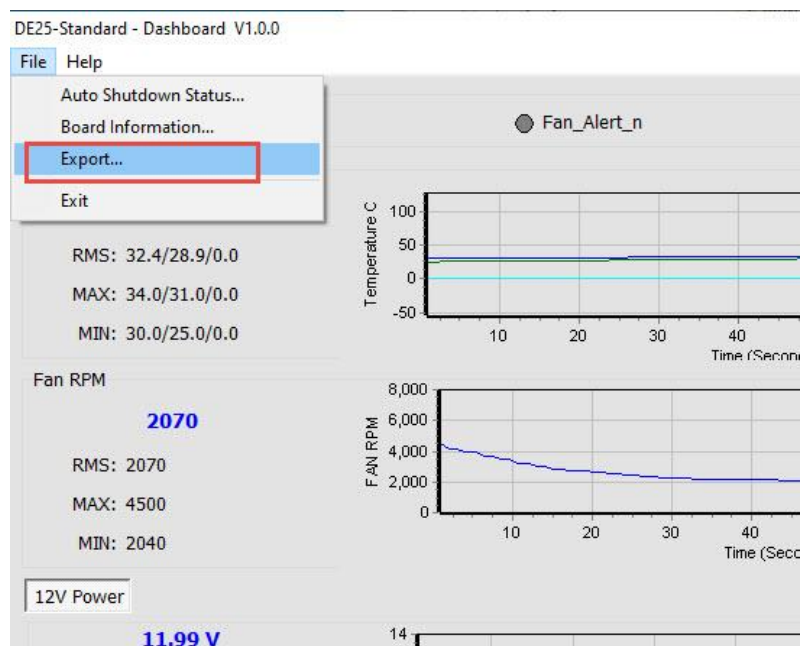
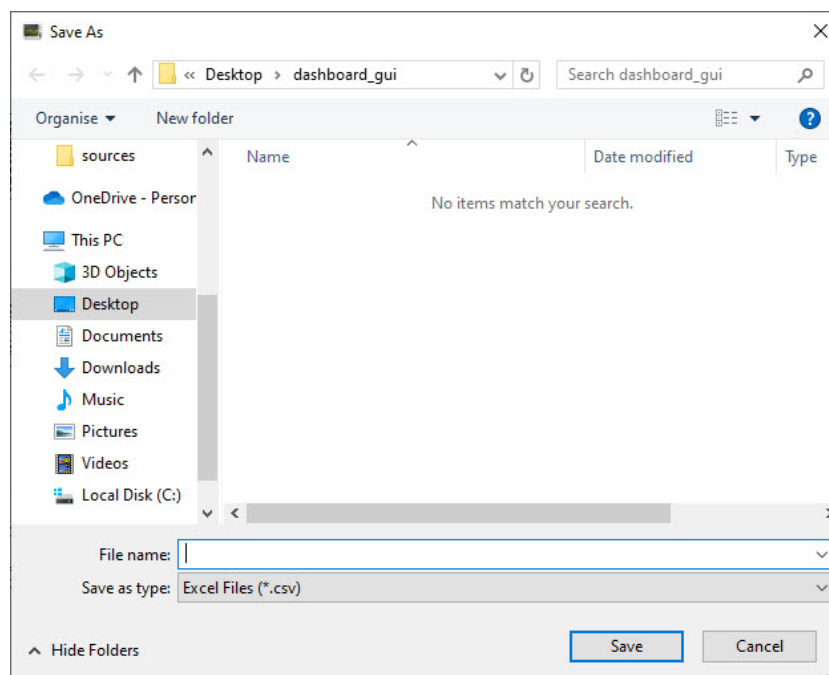

Figure 4-16 Export the log file
Figure 4-17 Export the log file in .csv format
- **Log File:** On the upper left of the Dashboard GUI program window, click “Export...” in the File menu to save the board temperature, fan speed and voltage data in .csv format, as shown in **Figure 4-16** and **Figure 4-17**.